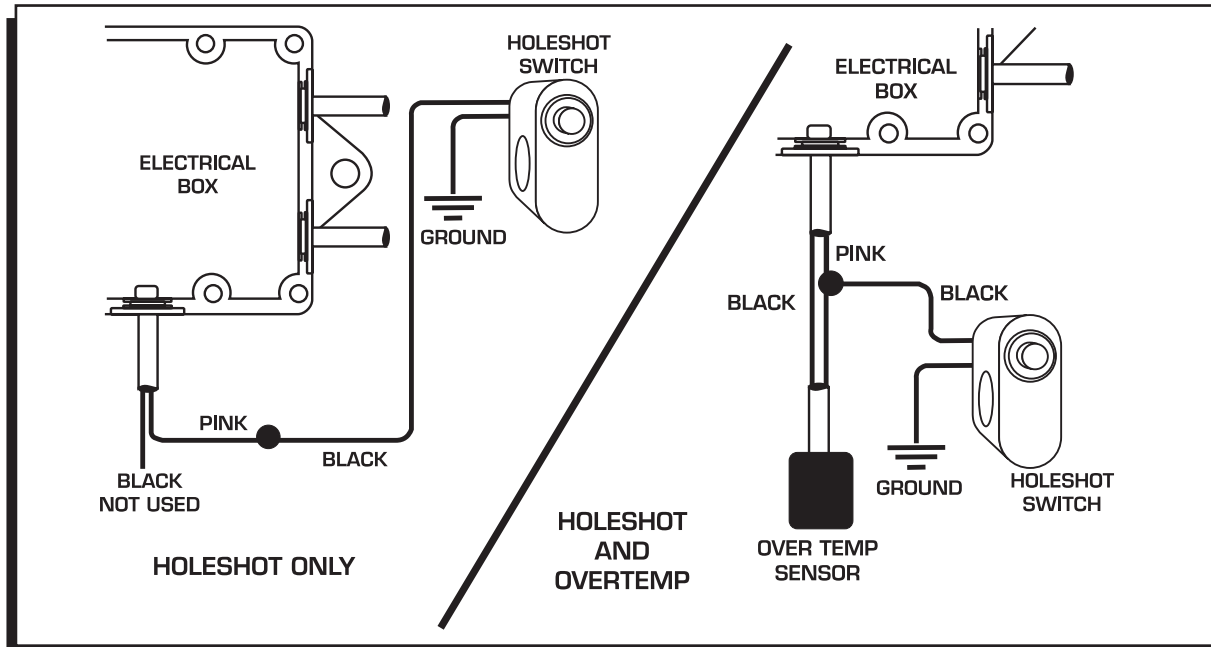

Figure 3 Connecting the Holeshot Feature.
1. Connect one side of the Holeshoot Switch (PN 4372, not supplied) to the PINK wire of the Enhancer. Connect the other wire of the Holeshoot Switch to ground (Figure 3).
2. Splice one side of the Holeshoot Switch (PN 4372, not included) into the PINK wire of the Enhancer. Connect the other wire of the Holeshoot Switch to ground (Figure 3).